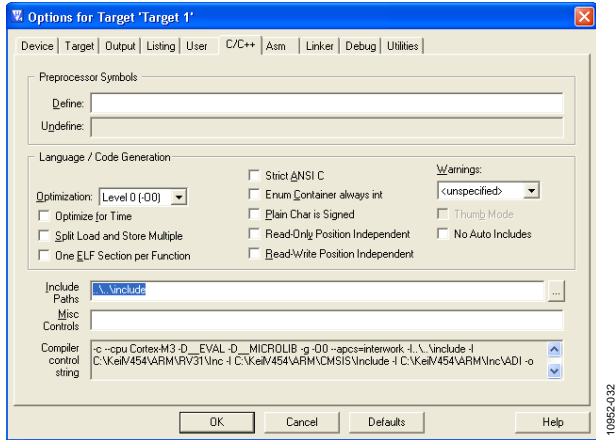

Figure 33. Options for Target Setup
10. In the **C/C++** tab, add the include path as shown in Figure 33.